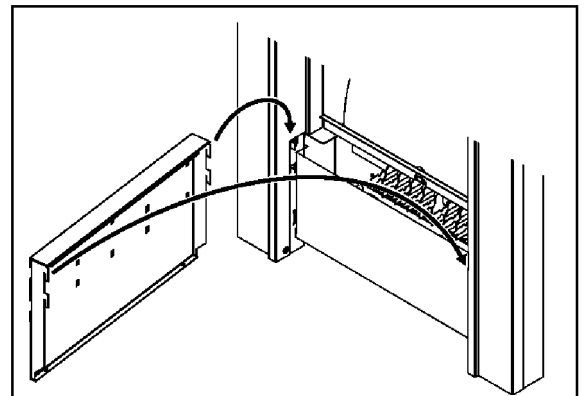

Figure 18. Fitting the 'Envy' lower trim.
2. Hang the lower trim at the bottom of the fascia (See figure 18).